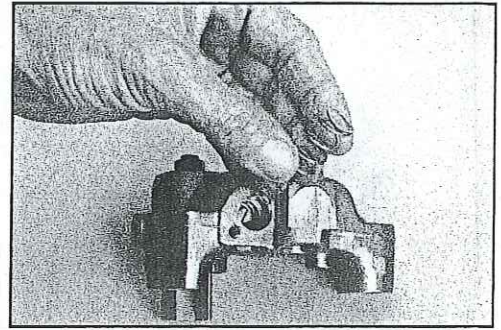

Fig. 50
2. Slowly remove cover until spring pressure ceases, then remove the two control valve springs. See Fig. 50.